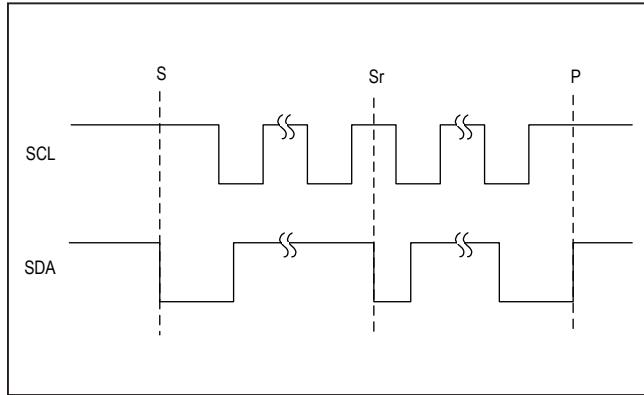

Figure 5. I2C START, STOP and REPEATED START Conditions
STOP condition (P) to relinquish control of the bus, or a REPEATED START condition (Sr) to communicate to another I2C slave. See Figure 5.